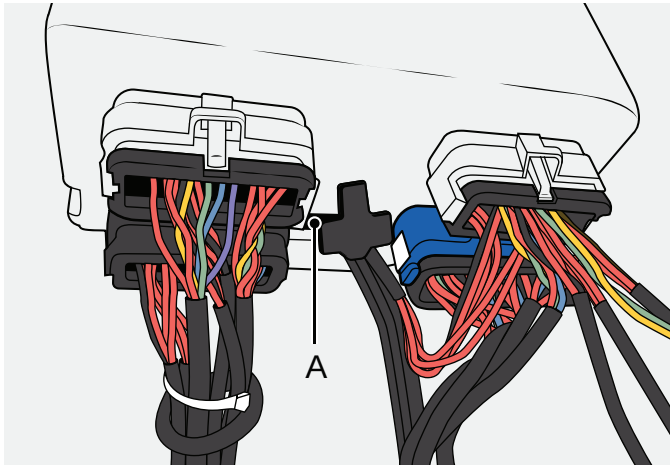

Figure 121
1. Connect the computer to the bathtub in the USB slot (A) underneath Control box, with an A-B USB cable. See Figure 121.